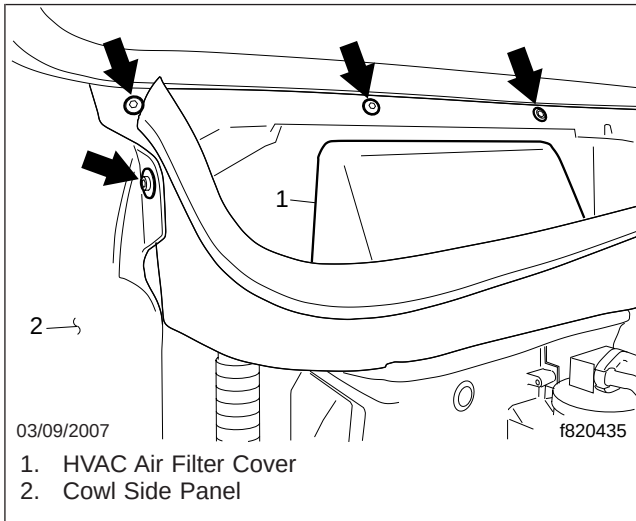

Fig. 4, Right-Hand Rain Tray Fasteners
- 7.2 Remove the HVAC air intake filter cover by removing the two screws that attach it to the inside bottom of the right-hand rain tray; see Fig. 4.
- 7.1 Push the washer tube fitting into the hole in the right-hand rain tray. Attach the rain-tray to the windshield support with three screws; see Fig. 4. Tighten the screws 8 to 12 lbf·ft (11 to 16 N·m). Ensure that the tray seals evenly with the cab, with no gaps.